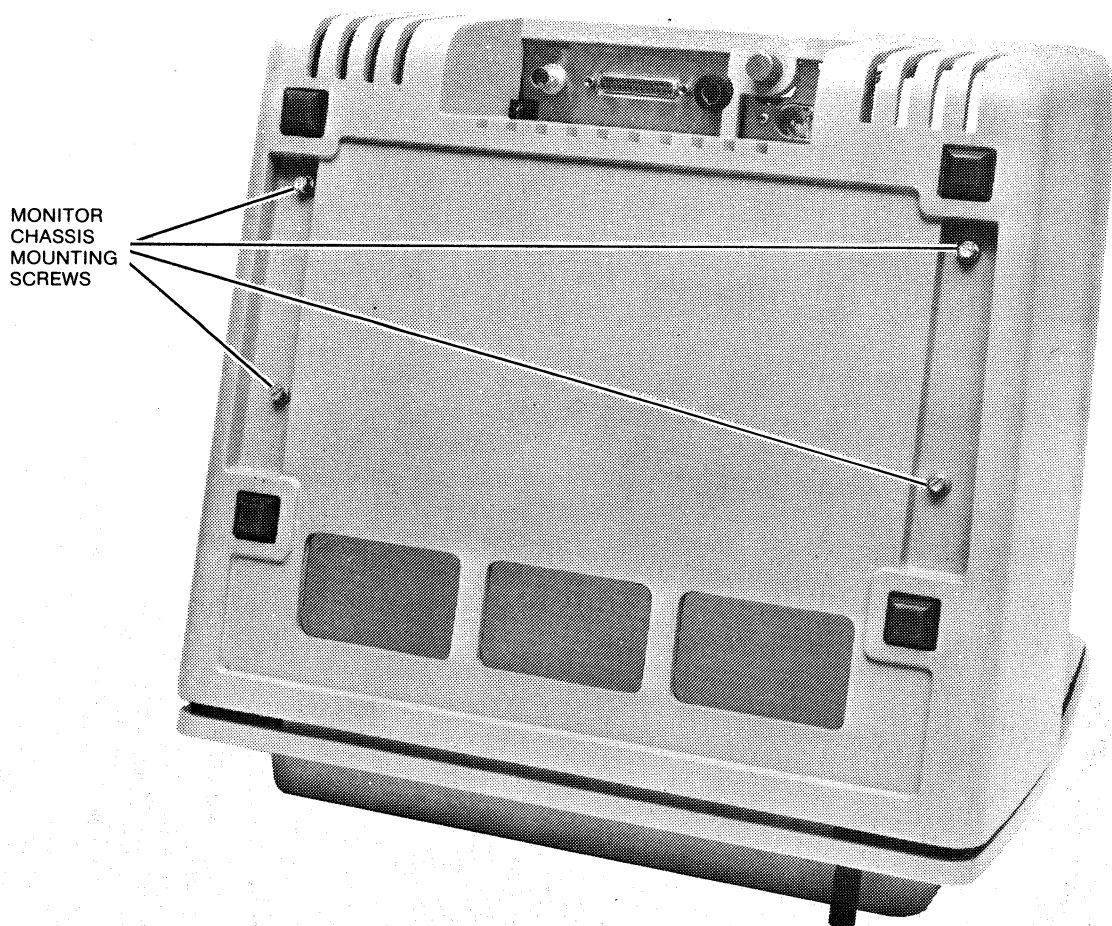

FIGURE 4-4. MONITOR HOUSING (BOTTOM VIEW)
10. Using a $\frac{1}{4}$ " hex driver, remove the four monitor chassis mounting screws located on the bottom of the monitor housing (Figure 4-4).